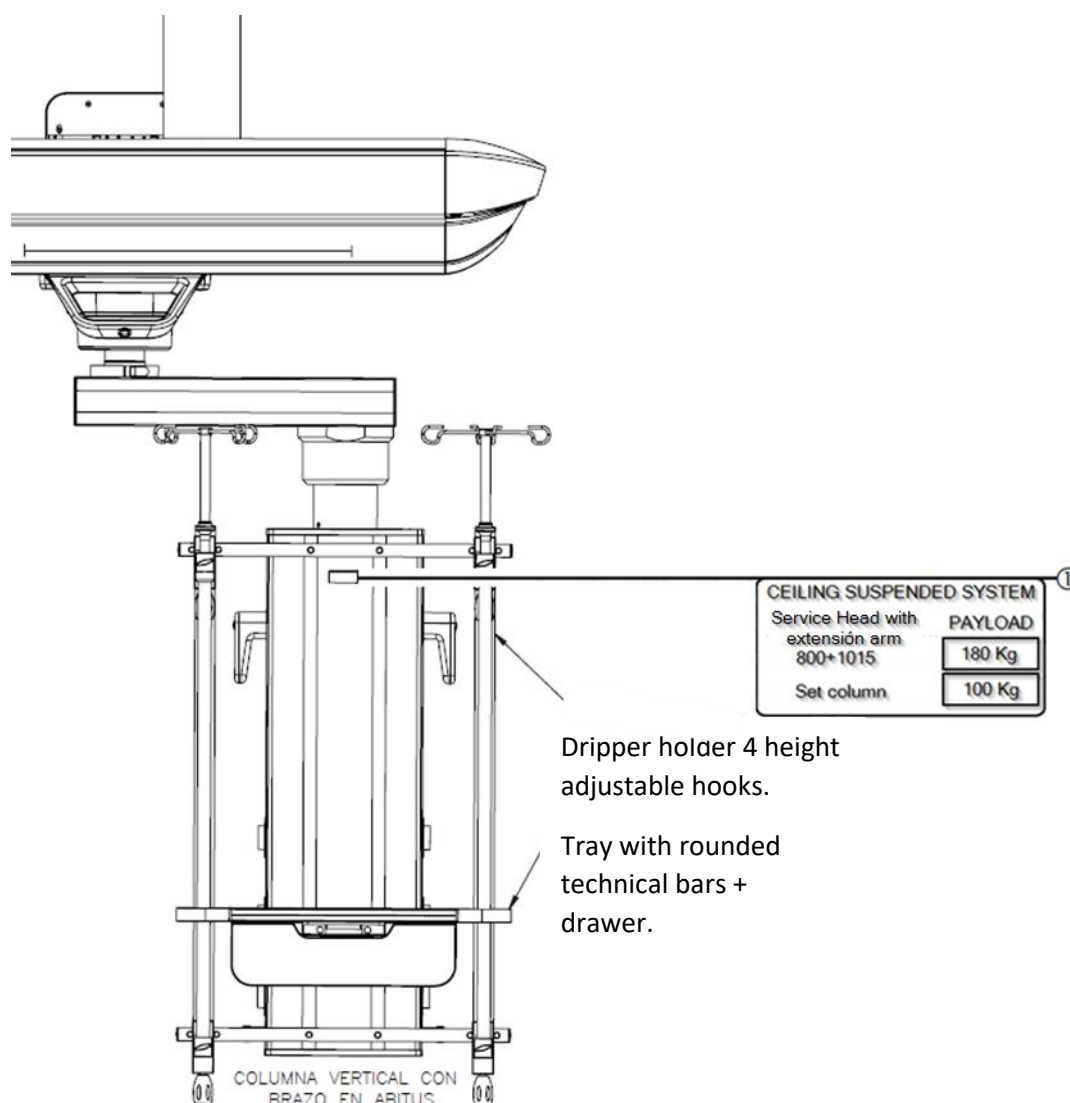

Fig.18 Location of the payload label on a service head
In the example illustrated in figure 18, there is an ABITUS assembly with column and extension arm. The maximum payload is 100 kg after subtracting the dead weight of the extension arm and the service head and is indicated on the sticker (1) on the service head. In the case of trolleys, the label is visible on the corresponding trapezoid.